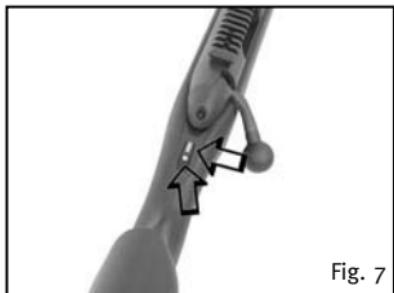

Fig. 7
Optional Lock Position (Fig. 7):
1. Move rotary safety in position **“Safe”** (Fig. 7 only white dot is visible).